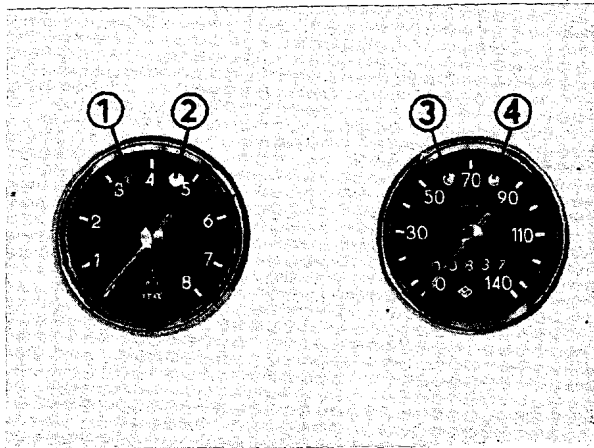
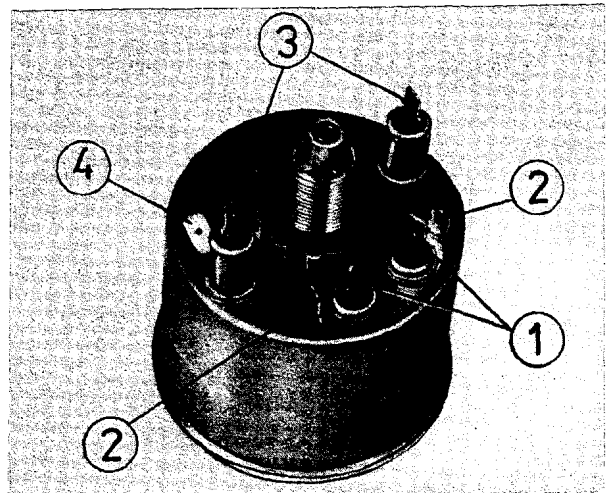

Fig. 185. Arrangement of the tell-tale lights
Fig. 186. Arrangement of the lamps in the instruments
A tell-tale lamp (No. 4 in Fig. 185) is used for checking the direction indicating system. The two front flashing-light diffusing screens are provided with a larger rim (1) than the two rear ones. This rim is intended for checking the flashing-light system by the driver.
Arrangement and meaning of the tell-tale lights are indicated in Fig. 185. As to the wiring and interconnection with other electrical devices, the necessary information is given in the Circuit Diagram, Fig. 184.
- (1) Idling indication, yellow (only deluxe model)
- (2) Control light for dynamo, red (only deluxe model)
- (3) High headlight beam control, blue
- (4) Control of direction indicators, green (in the standard design of the motor-cycle, this is also the control light for the dynamo)
Tachometer and revolution counter are illuminated in night operation. For this purpose, the lamps marked by (3) in Fig. 186 are used which get ground via the flat plug connection (4). The function of the lamps indicated by (1) is illustrated in Fig. 185.